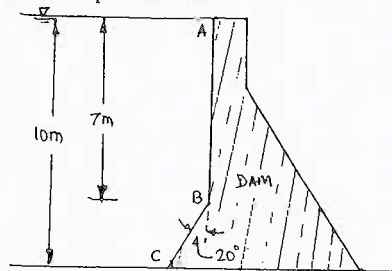

Fig.Q.3(b)
- b. A gravity dam shown in Fig.Q.3(b) with hold water to a depth of 10m. Upstream face of dam is vertical for 7m depth and inclined at 20° with vertical for the remaining height as shown in figure. Determine the pressure force on vertical and inclined faces per unit length of dam. Also locate their respective center of pressures. (12 Marks)